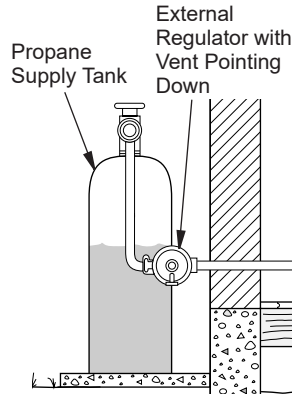

Figure 15 - External Regulator with Vent Pointing Down
1. Close equipment shutoff valve (see Figure 15).
1. Open equipment shutoff valve (see Figure 15).